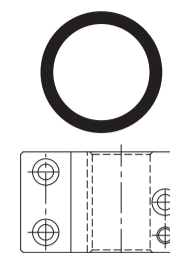
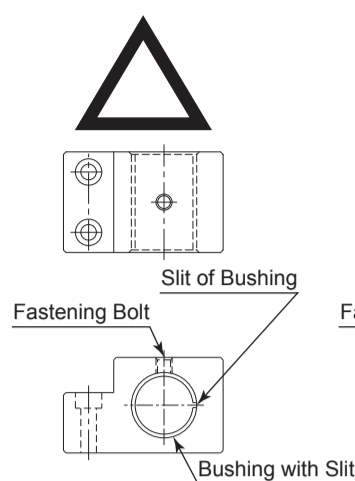

Fig. 15
Fig. 16
- 2 When installing a Motor Spindle to the holder, recommended installation method is shown Fig. 15. Refer to "3 How to fabricate the Split Type Holder". If this is not possible, install as shown in Fig. 16.